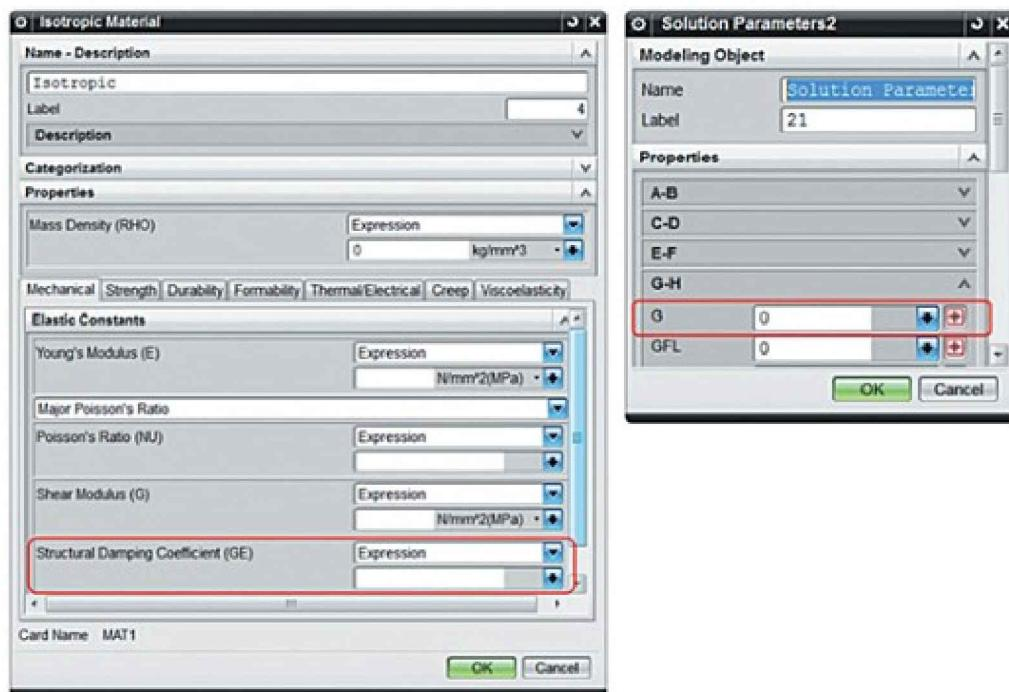

Figure 3.5. Specifying structural damping
- Specifying the corresponding value in the *Structural damping coefficient – GE* field in material properties (Figure 3.5) or in *MAT1* card in the *GE* box [7, 8].